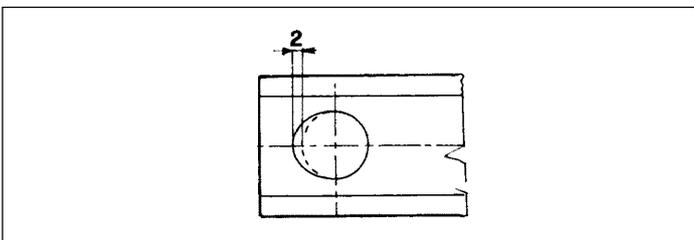

Fig. 20
- **the hole has become ovalized:** if ovalizing exceeds 2 mm / 0.078 inches - the size of the original hole (fig.20).